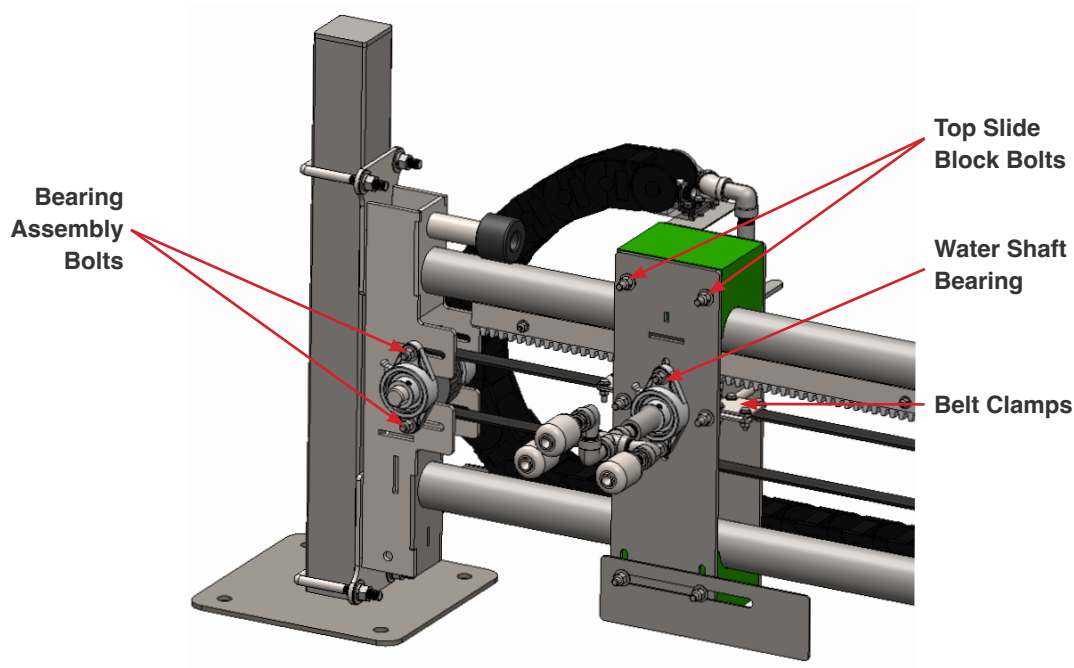

Fig. 7.2.5 - 1 - Replacing belt clamps
4. Locate the drive pulley and using a hex driver, loosen the shaft clamps on each side of the gear box and both bearing shaft collars holding the shaft (Fig. 7.2.5 - 2).